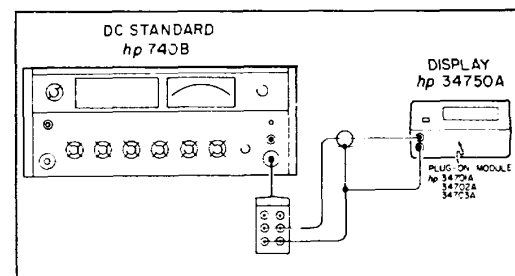

Figure 5-3. Zero Detect Comparator Offset Adjustment
- Connect the equipment as shown in Figure 5-3